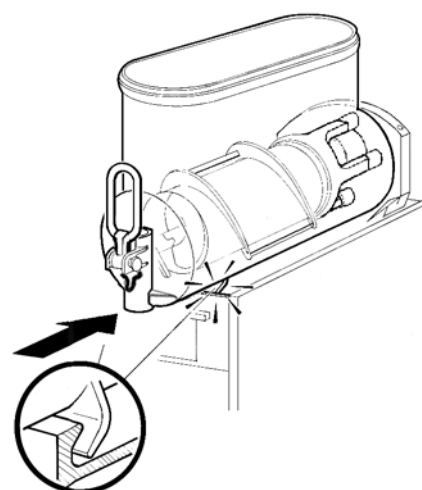

figure 16
- 7 Push the bowl towards the rear wall of the unit until it fits snugly around the gasket and its front fastening hooks are properly engaged (see figure 16).